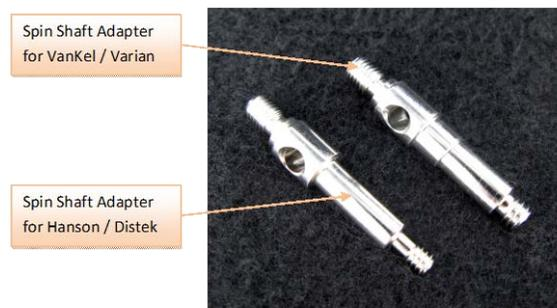

Figure 11
4.7.2.1 Follow the instructions in Section 4.7.1 with the following exceptions. Remove only the lower portion of the paddle or basket shaft assembly and replace it with one of the following Spin-Shaft adapters as shown in Figure 11. (Distek Testers do not require the use of an adapter.)